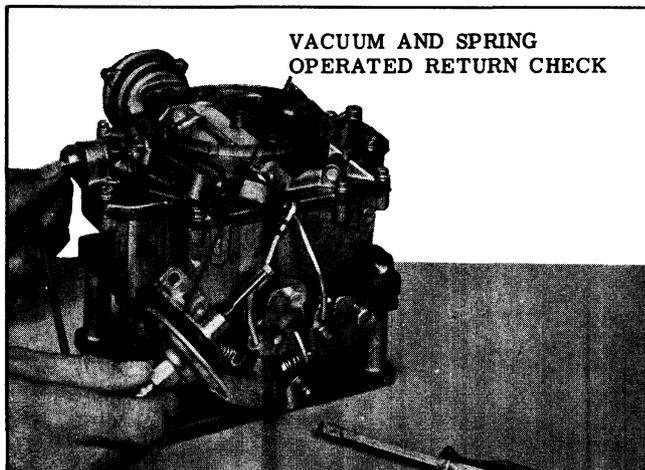

Fig. 8-85 Vacuum Return Check Removal
3. Remove vacuum return check to carburetor body attaching screw, then remove vacuum return check. (See Fig. 8-85)